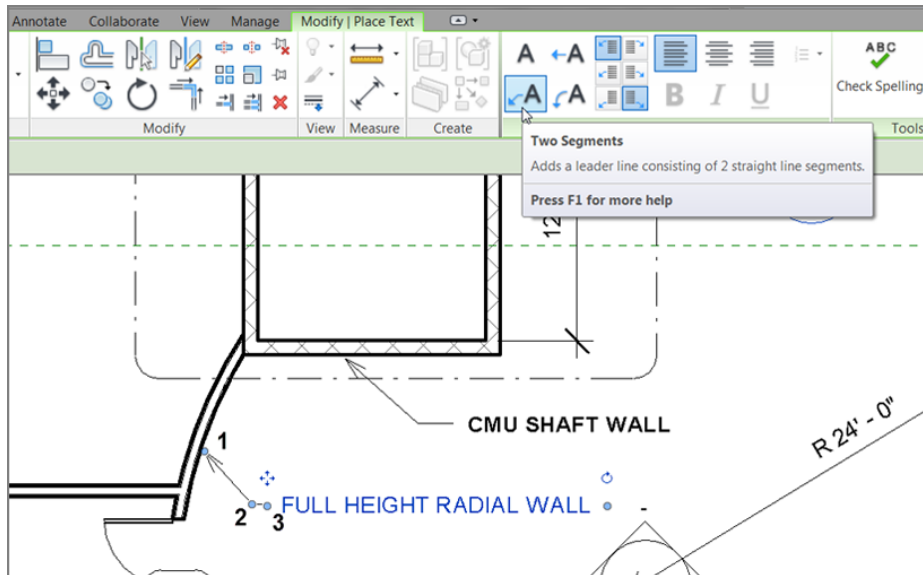

FIGURE 5.50: Adding a piece of leader text
2. On the Format panel, click the Two Segments button, as shown in Figure 5.50.
3. Pick a point near the radial wall, marked 1 in Figure 5.50.
It almost seems as though Revit uses the ugliest leader as a default, forcing you to change it immediately. The large arrowhead you saw in Figure 5.50 isn't the only one Revit provides—had that been the case, Revit might have never gotten off the ground!